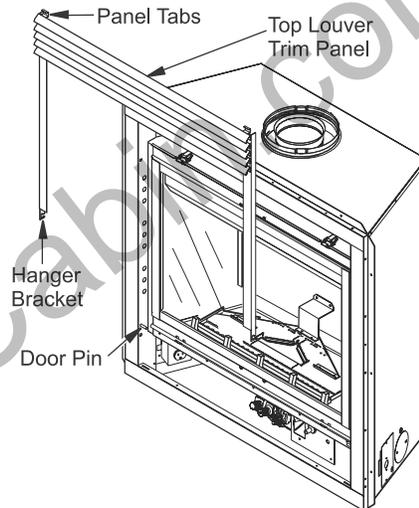

Figure 55 - Removing Top Louver Trim Panel
1. Grasp two hanger brackets at bottom and pull up until hanger brackets release from door pins (see Figure 55).
2. Remove top louver trim panel (see *Removing Top Louver Trim Panel* and Figure 55, page 30).